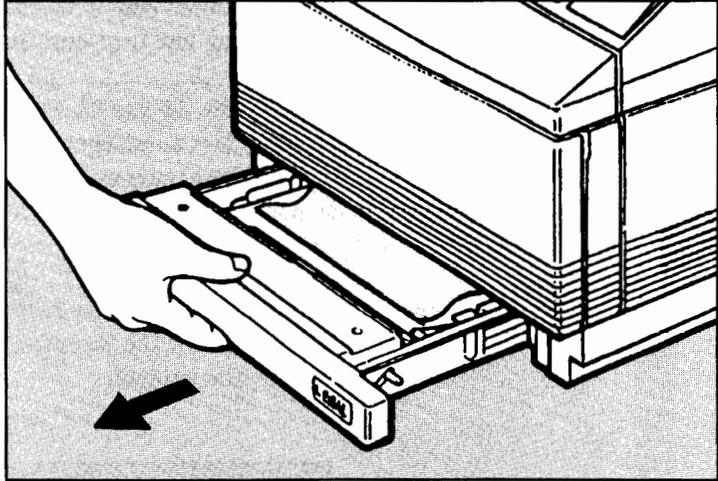

Figure 8-3. Clearing the Paper Tray
3. If paper is jammed in the Optional Lower Cassette, you need to remove the paper tray to clear the jammed paper (see figures 8-3 and 8-4).